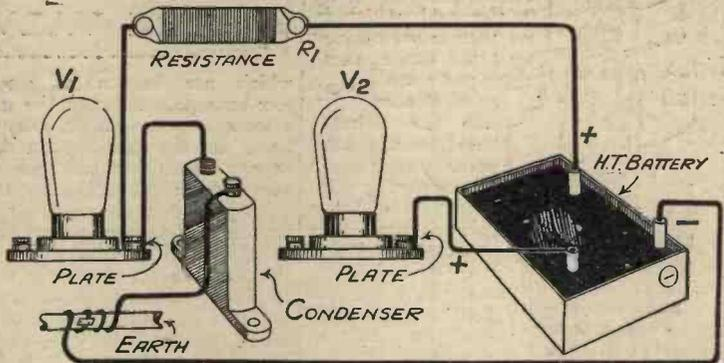

Fig. 2.—Here a "decoupling resistance" has been added, which will act as a barrier to H.F. currents.
H.F. currents. In the diagram we have shown the resistance of a run-down battery by a shaded area, and you will see that the anode of the first valve is joined to one end of the battery, whilst the anode of the other valve is joined to the tapping before the shaded area. It will be obvious, therefore, that the H.F. currents from V1 will pass into the battery, but owing to the high resistance of the shaded area will pass back to the anode circuit of V2, and it is this feeding back which gives rise to "motor-boating," or L.F. oscillation. Fig. 2 shows the same arrangement, only with this time a decoupling resistance and condenser inserted in the anode circuit of V1.